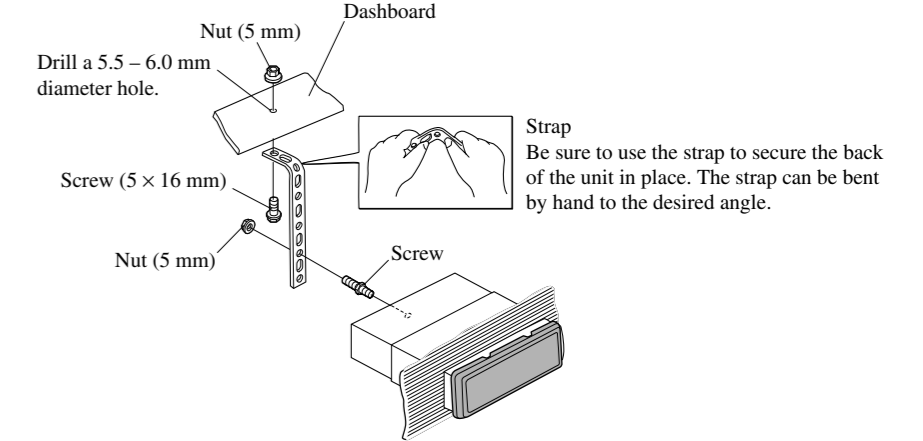

Fig. 9
**Installation without the rubber bush (Fig. 9)**